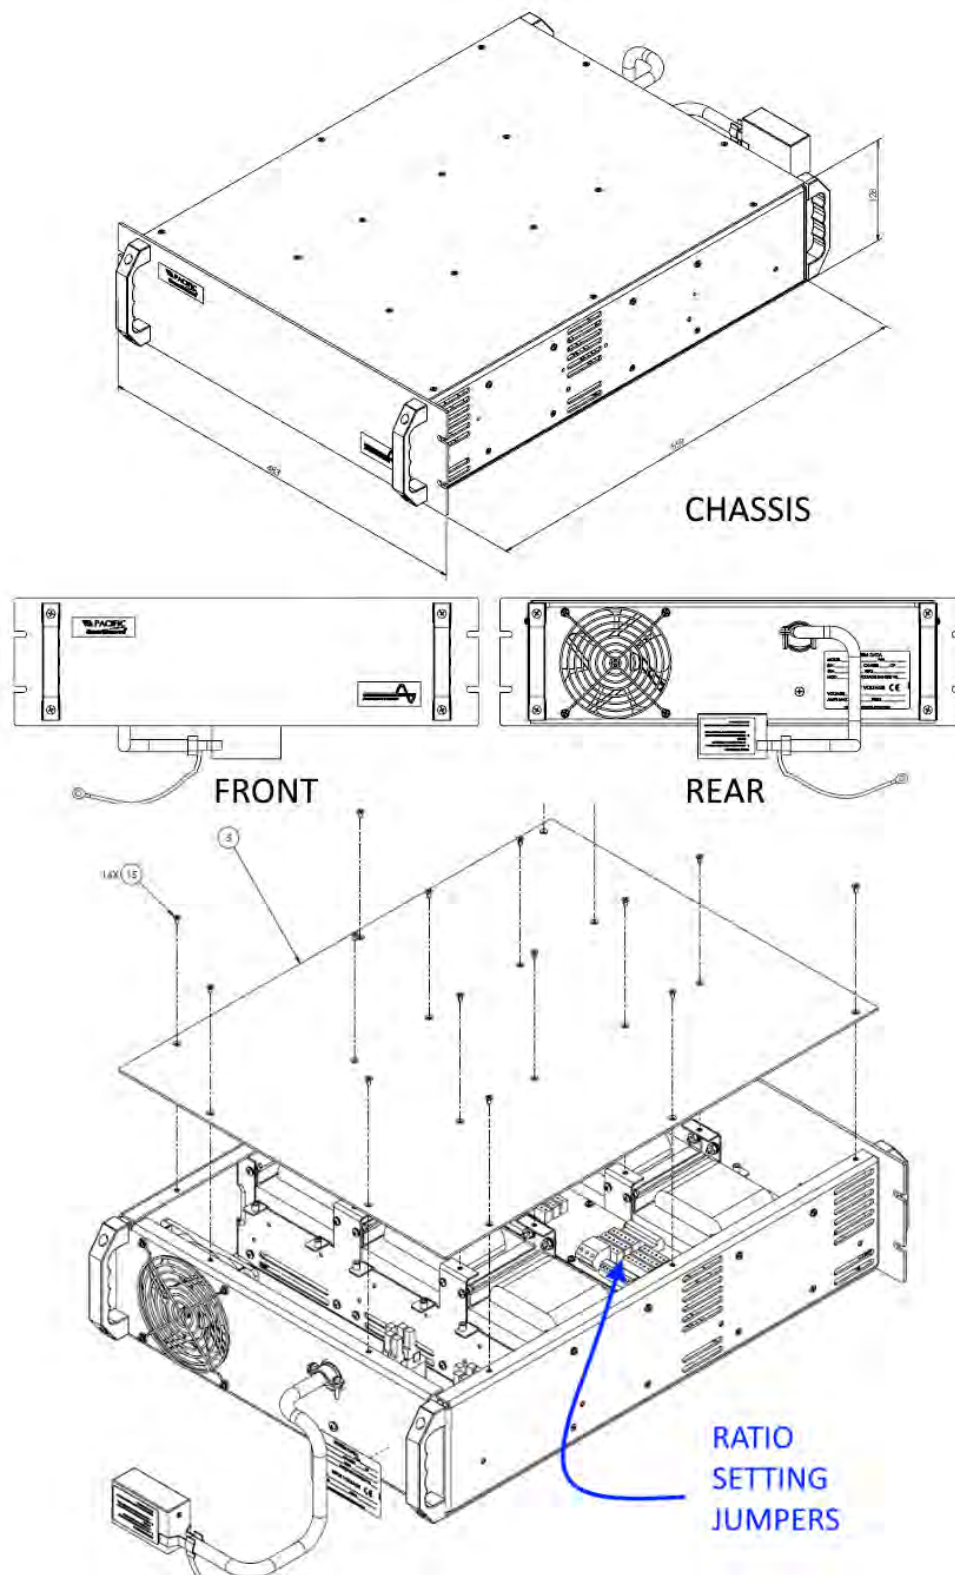
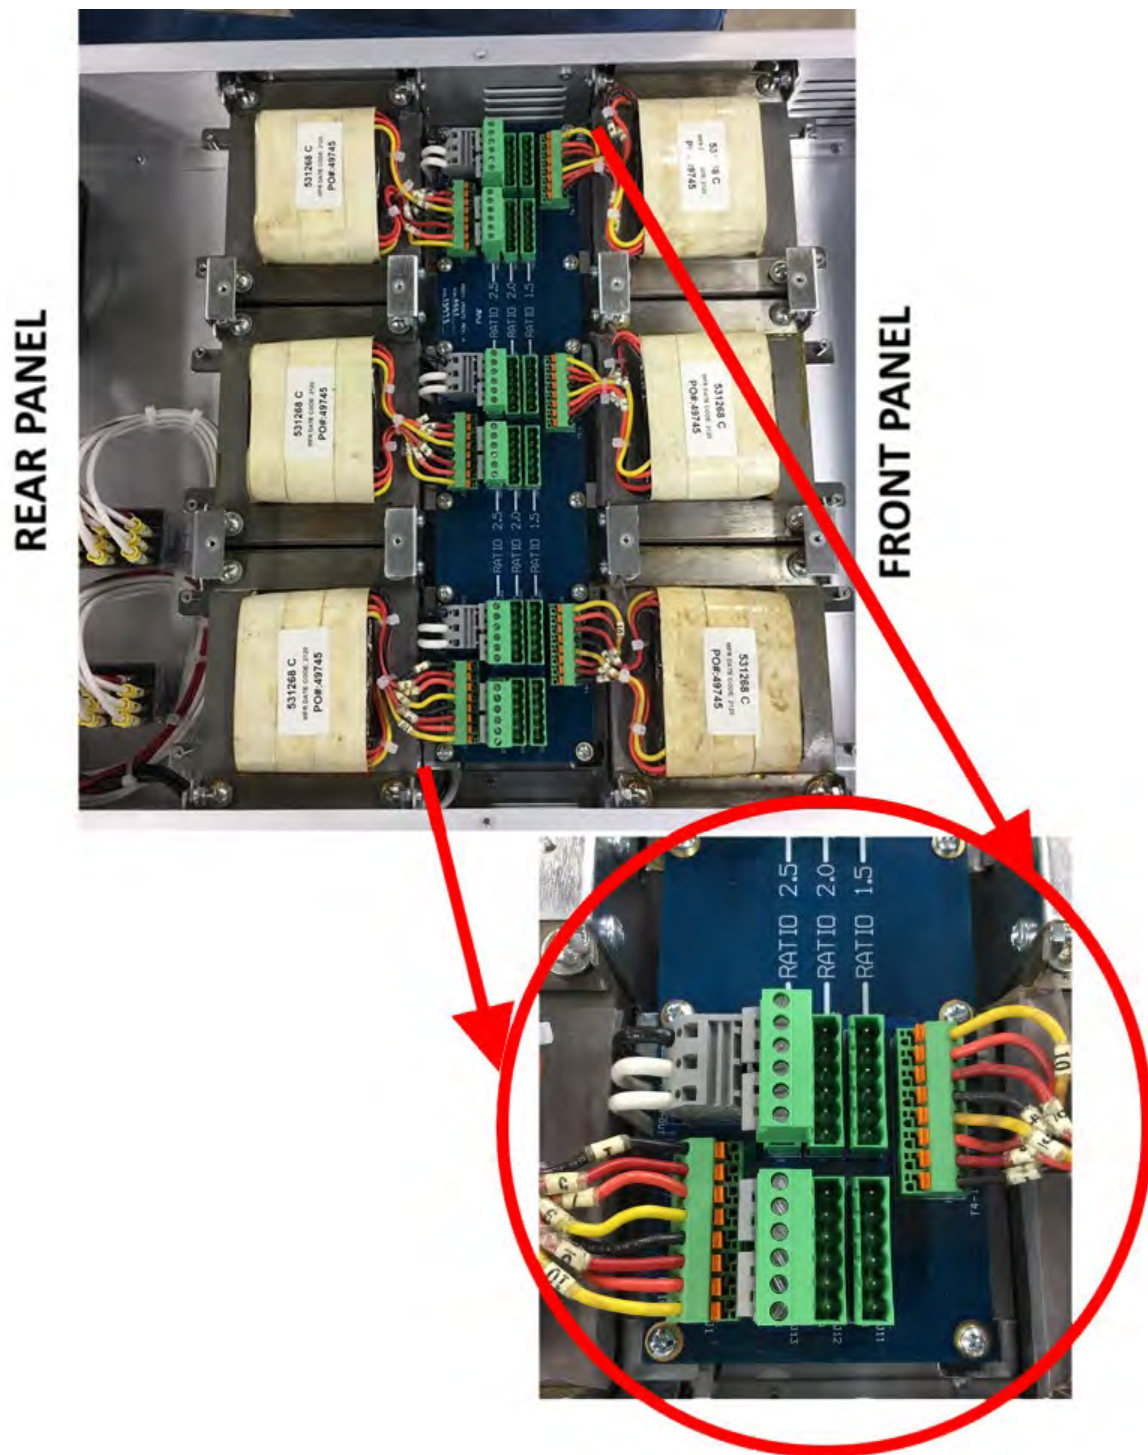

Figure 5-9: External Output Transformer Module Chassis Drawing Load Connections
Figure 5-10: External Output Transformer Module Configuration Jumpers
For all 5U rack height LSX models, the magnetics module consists of a separate 3U rack mount chassis that contains the transformers and connects to the power source. The Magnetics Module (Assembly No. 134780) is required for the VR1.5, VR2.0, and VR2.5. Refer to Figure 5-9 on page 76.
3. Move all jumpers to the desired transformer ratio position. All jumpers must be in the same row. The ratio is shown on the circuit board. Refer to Figure 5-10 on page 77.
The wiring requirements for a low range (0-132 Vac, 0-135 Vac or 0-150 Vac) single phase load are shown in Figure 5-10.
used in addition to the wiring described above. Refer to Figure 5-9 and Figure 5-10 for connection details.
The wiring requirements for three phase loads (WYE or DELTA) are shown in Figure 5-9.
Figure 5-10 shows the external sense wiring for 1, 2, and 3ϕ systems. There is little or no current flowing through the External Sense metering lines. Standard 22 AWG, 600 Volt (0.050" or 1.27mm) control wire is recommended for this application. Twisting the External Sense wiring is recommended and, in some cases, can improve performance. In noisy environments, shielding may become necessary. If shielded cable is used, be sure to ground the shield at one end only, to prevent the possibility of creating a ground loop.